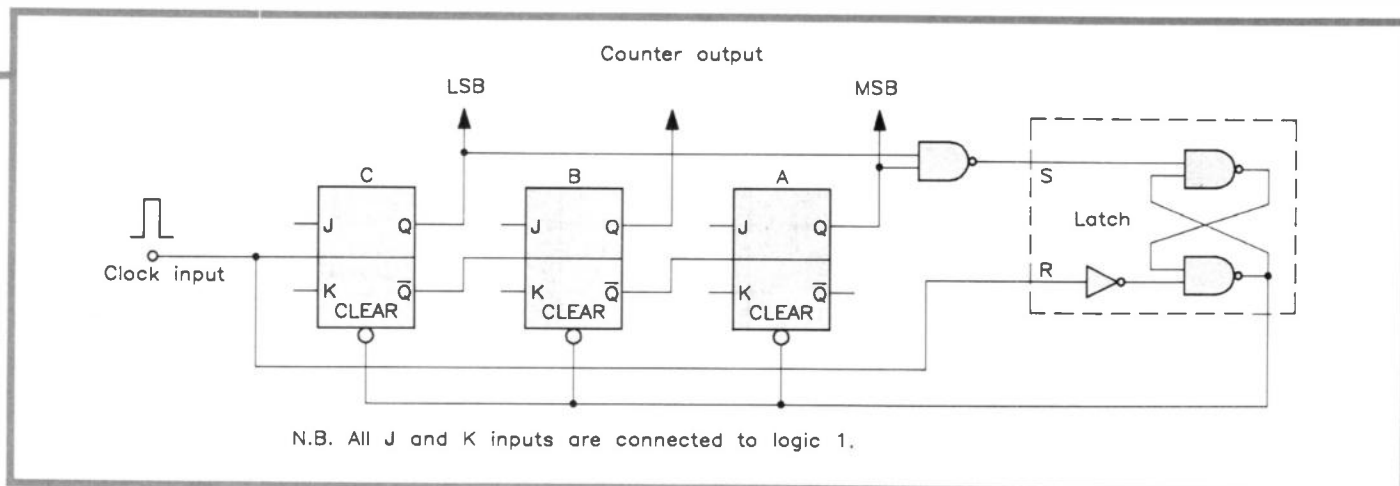

Figure 6. The completed design for the modulo-5 down counter.
Therefore, we gate the Q outputs of these flip-flops to drive the reset line, which must only be connected to those flip-flops that require resetting. These are identified from the required state (100) and are obviously the second and third flip-flops. The complete design is shown in Figure 6.